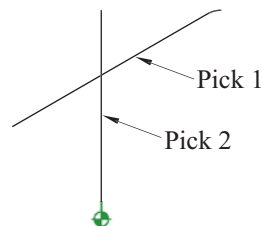

Figure 20 Selection Points for Trimming
49. **Choose the angular line, then the last vertical line as shown in Figure 20.**